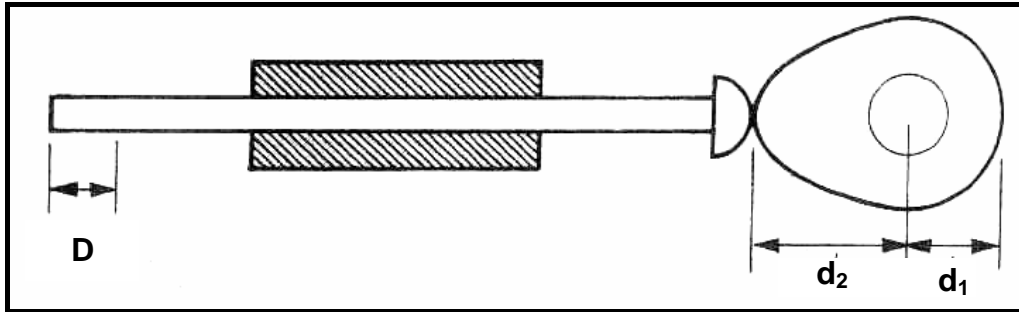

FIGURE 1.8
1.18 What is the distance **D** moved by the follower for the pear-shaped cam shown in FIGURE 1.8 below, given that $d_1 = 4 \text{ mm}$ and $d_2 = 10 \text{ mm}$?